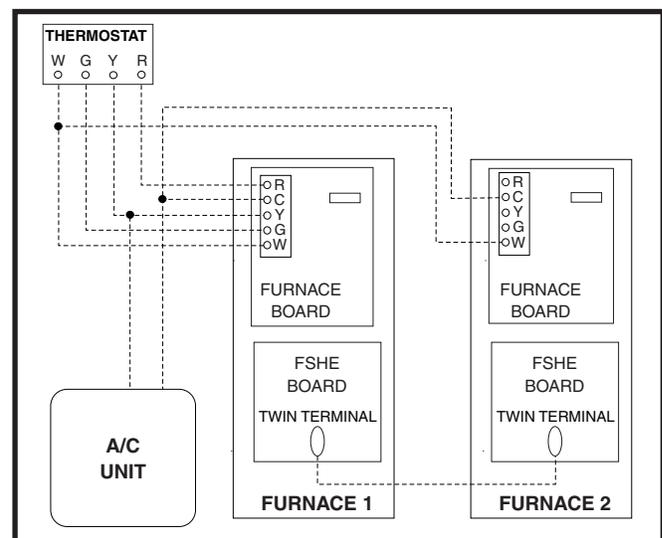

Figure 16. Single Stage Twinning
If both single stage furnaces are upgraded to the fixed speed iSEER™ blower, the twin terminal on the blower control boards (Figure 16) may be used to twin the single stage furnaces only if the following criteria are met:
For twinning of single stage furnaces equipped with fixed speed iSEER™ blowers, refer to Figure 16 and the following instructions:
3. Refer to Figure 16 (page 20) for the remaining thermostat connections. The **C** connection must be made between the twinned furnaces to ensure proper performance.